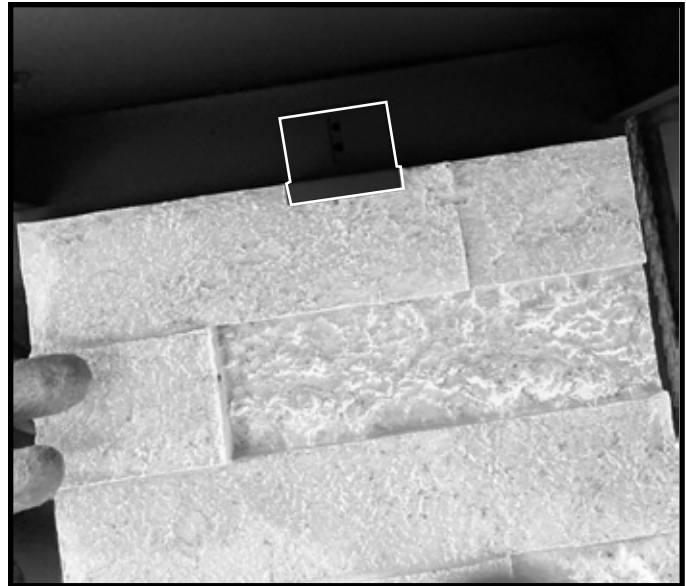

Figure 26 Center Refractory Bracket on the Panel
9. Install the refractory bracket and center it as shown in Figure 26.
7. Place the side refractory bracket in position and center it as shown in Figure 26. Fasten with a self-tapping screw. See Figure 32.